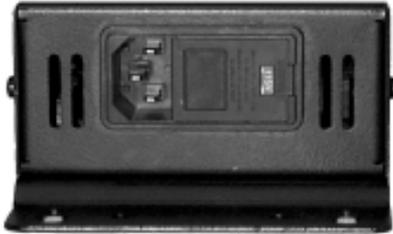

Figure 7.1 Back Panel - Location of Fuse Panel
- 2) Insert a small, flat blade screwdriver into the pry slot. (The pry slot is located opposite the IEC power inlet on the power module (See Figure 7.1). Pry the fuse access door open.